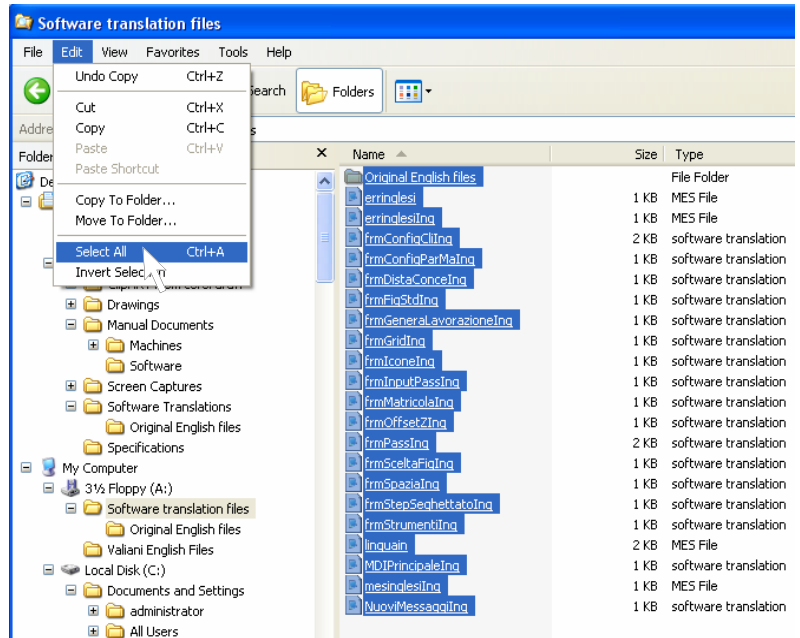

Figure 2.1
3. Click "Edit," "Select All" from the Menu Bar. All of the translation files should be highlighted in blue on the right side of the screen (Figure 2.1).